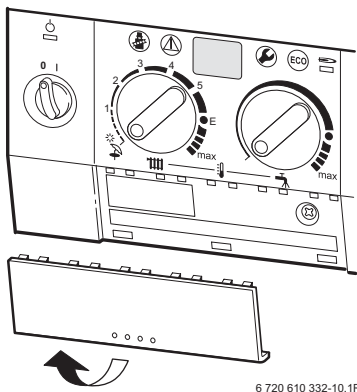

Fig. 21
- ▶ Pull out cover panel at the bottom and remove. Refer to fig. 21.